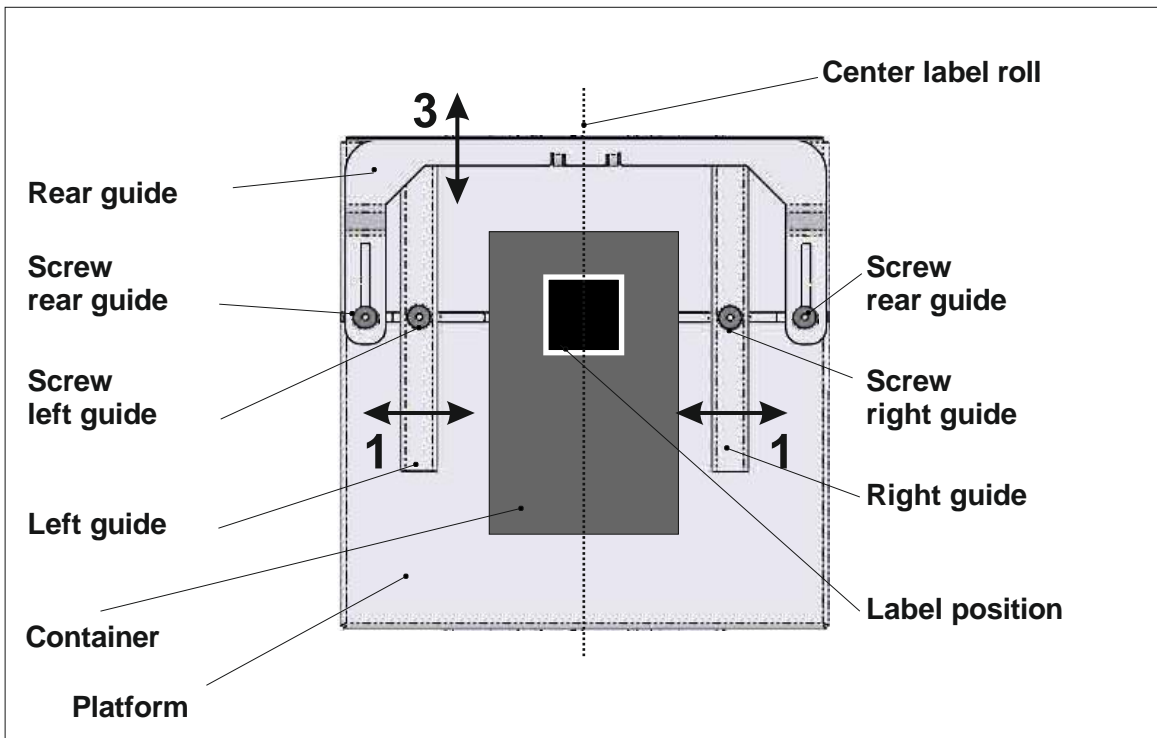
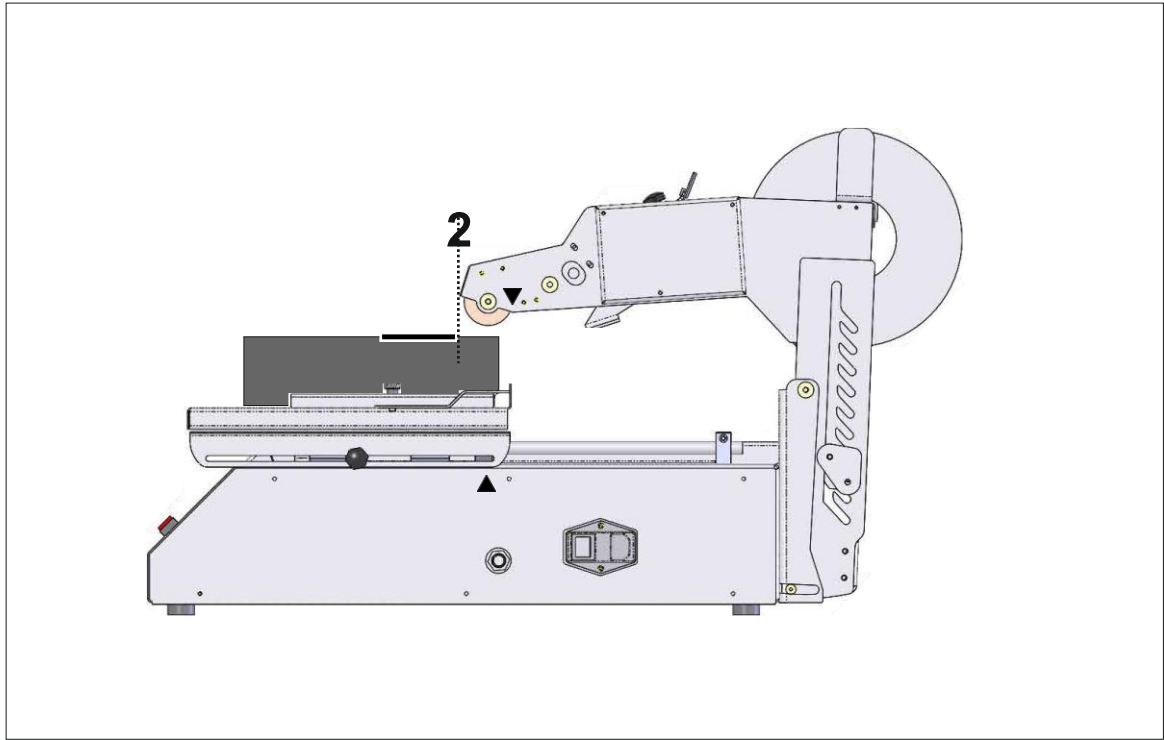

Figure 10.1
Figure 10.2
- Place the container on the platform. Position the center of the label roll to coincide with the center of the desired label application position. Set the left and right container guide to secure the container between them **(1)** - fig.10.1. Tighten the screws on both guides.
- Manually pull the platform to the front position. Position the container so the end of the label is below the start of the upper applicator assembly **(2)** - Fig. 10.2. This ensures complete adhesion of the label. Secure the container in this position and set the rear guide **(3)** - Fig. 10.1. In the case of a two-label mode, this procedure is performed for the label with more rear position.